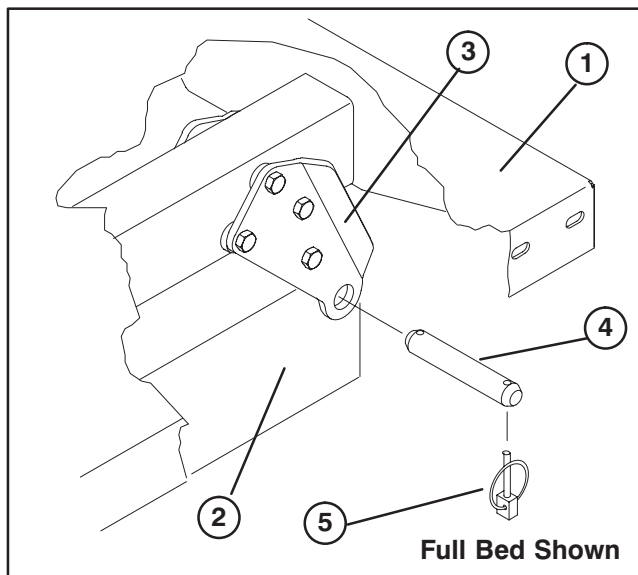

Figure 5
2. Carefully set bed onto vehicle frame aligning rear bed pivot plate holes with holes in rear frame channel (Fig. 5).
3. Secure each set of pivot plates to frame channels with a clevis pin and (2) lynch pins (Fig. 5). Tighten pivot plate mounting capscrews.